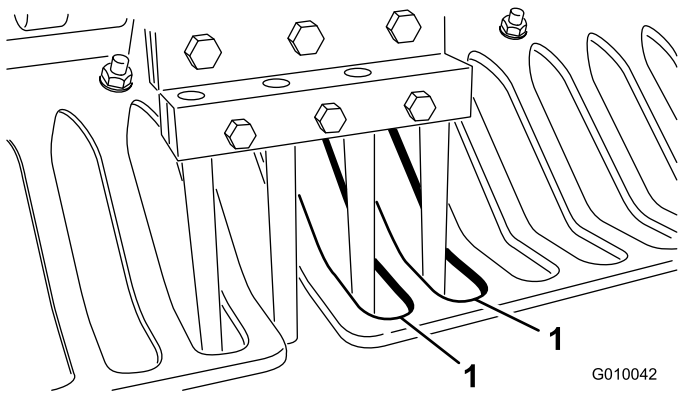

**Figure 27**
6. Install tines into the #2 and #5 tine holders (Figure 27). Tighten the bolts.